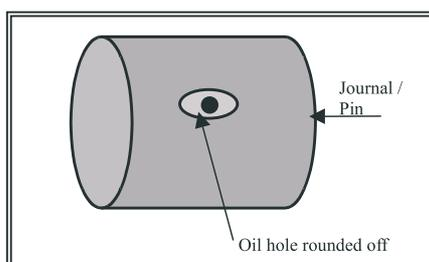

Fig.9-10
- Oil holes on the journals and pins must be rounded off and polished after completing under sizing. Fig.9-10